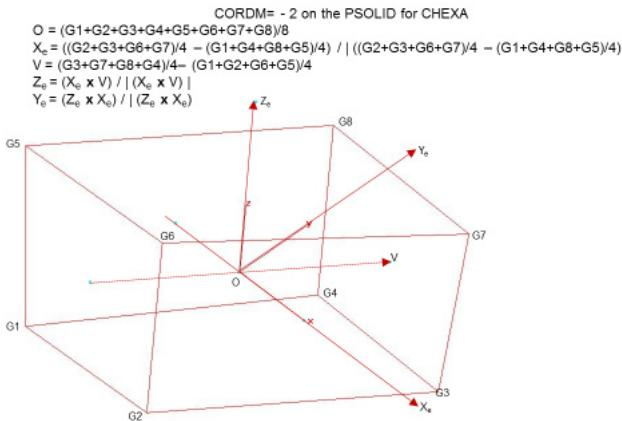

Figure 9-38 PSOLID for CHEXA
13. The internal coordinate system of the element is used internally and is based on eigenvalue techniques to insure non bias in the element formulation. For stress/strain output this internal coordinate system (CORDM=-1 on PSOLID entry) is hard to visualize. Thus a CORDM=-2 on the PSOLID is available as shown in Figure 9-38.